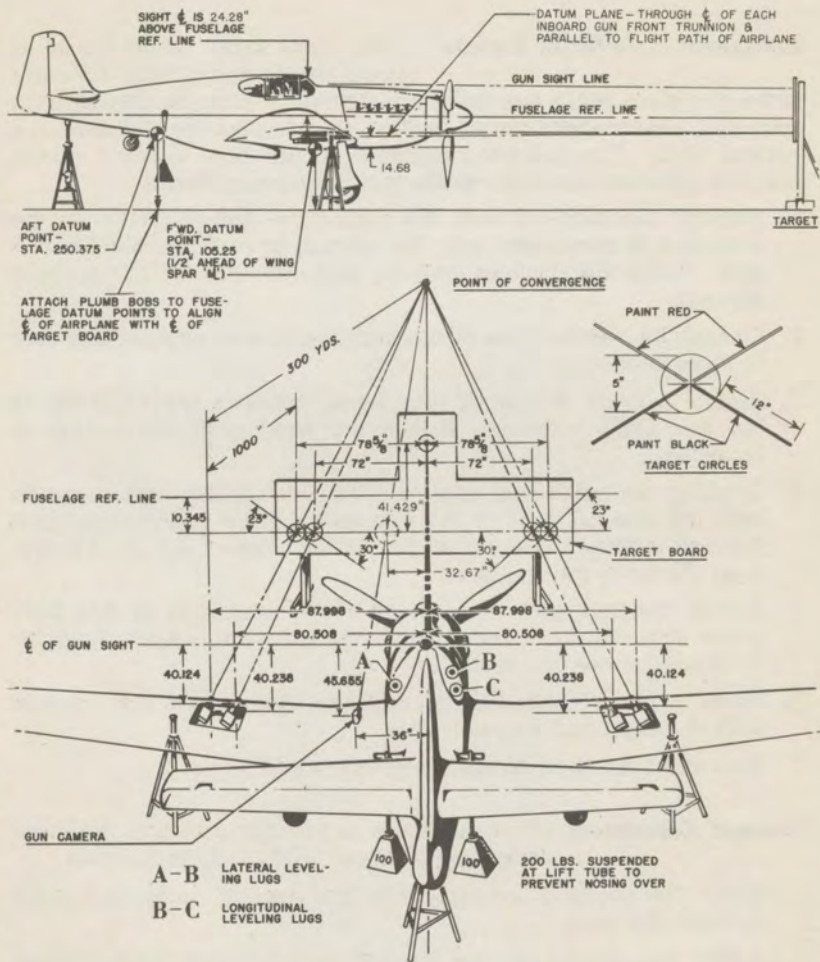

Fig. 46 BORE SIGHTING CHART
**Leveling the Airplane** Position the airplane so that the forward datum point is 1000 inches (83 feet 4 inches) from the target board. Align the vertical line of the sight bull's-eye on the target board so that it is in alignment with the centerline of the airplane, or align the airplane centerline perpendicular to a vertical wall and draw a vertical line on the wall in alignment with the airplane centerline. This can be done by suspending plumb lines from the forward datum point and the aft datum point (see Figure 46).
2. **Using a Level**—Place a leveling instrument at the height of the forward datum point (see Figure 46) and adjust it until the level bubble is centered. Sight along the level and establish a datum line on the wall, or position the target board so that the horizontal line through the gun bull's-eye is 14.68 inches above the sight line along the level.